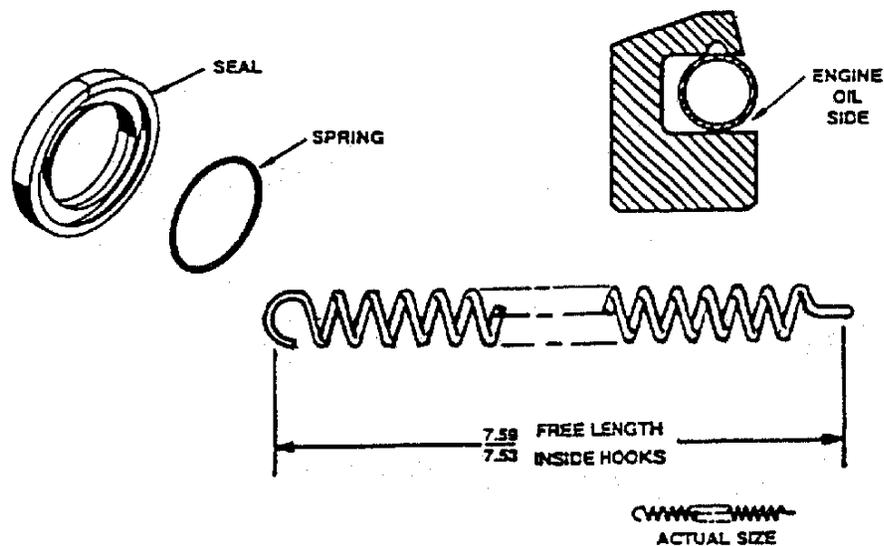

FIGURE 22-6. CRANKSHAFT OIL SEAL
1. Use only oil seal assembly P/N 530917 which consists of an oil seal and spring P/N 530974 Check the spring length. It should be 7 - 9/16" \pm 1/32" in length. See Figure 22-6 "Crankshaft Oil Seal."